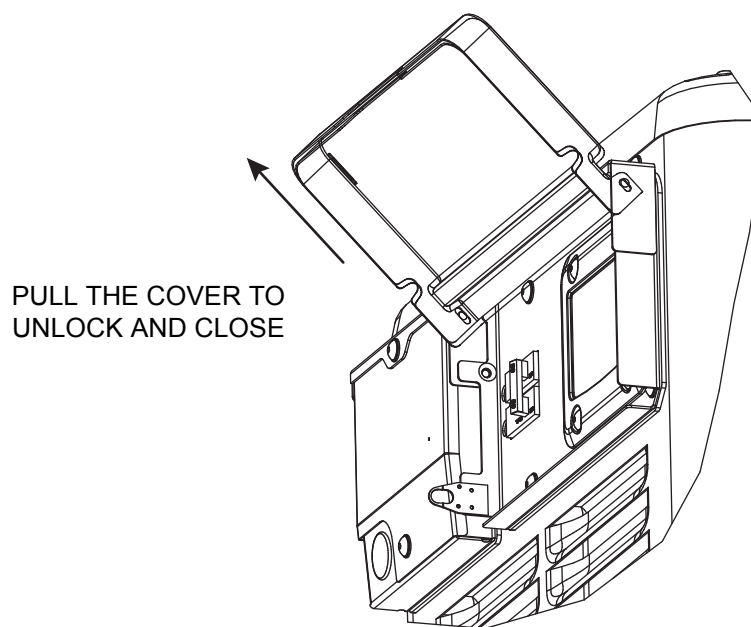

Figure 3-2: Close Control Panel Cover
The user interface includes seven (7) LEDs, to indicate the generator's alarms, warnings, and maintenance actions due. See Figure 3-2 and the following table for details on each indication.